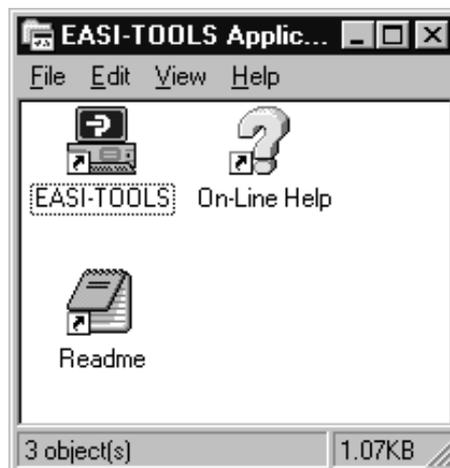

Figure 5-2. EASI-TOOLS Application Window
7. Once EASI-TOOLS has been loaded, the screen will display a message dialog box, stating 'Setup is complete. You may run the installed program by double-clicking on the program icon.' When you click the OK button, the window shown in Figure 5-2 will appear. Note: EASI-TOOLS may also be run from the Start menu.